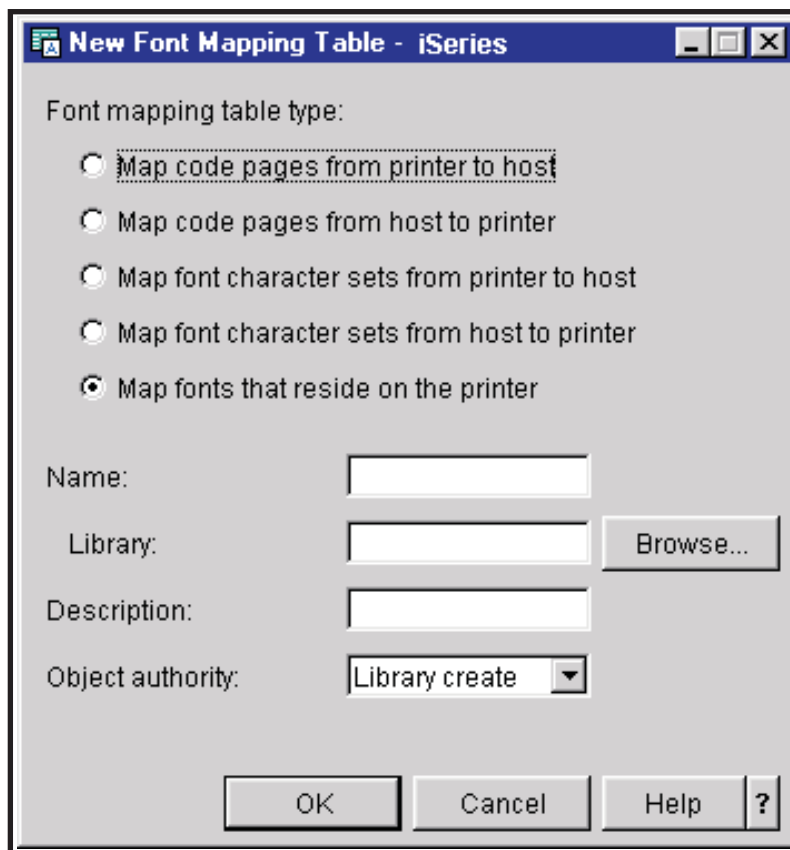

Figure 138. New Font Mapping Table Window
5. Right-click **User Tables** and select **New...** The window shown in Figure 138 opens.